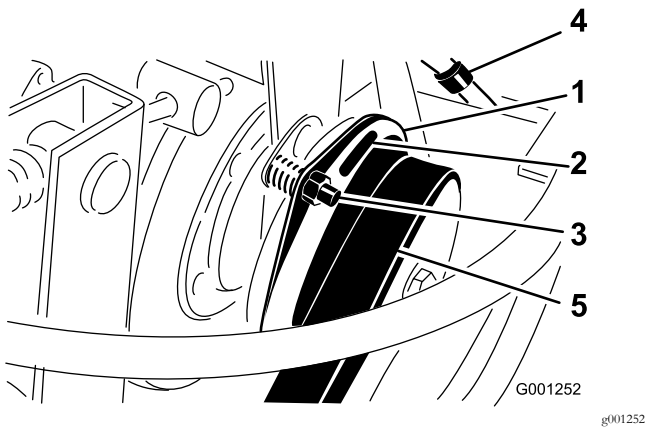

Figure 76
3. Adjust the air gap so that a 0.4 mm (0.015 inch) feeler gauge slides in between the clutch lining and friction plate with light pressure (Figure 76).
**Note:** You can decrease the gap by turning the adjusting nut clockwise (Figure 76). The maximum service gap is 0.7 mm (0.030 inch). Adjust all 3 air gaps.